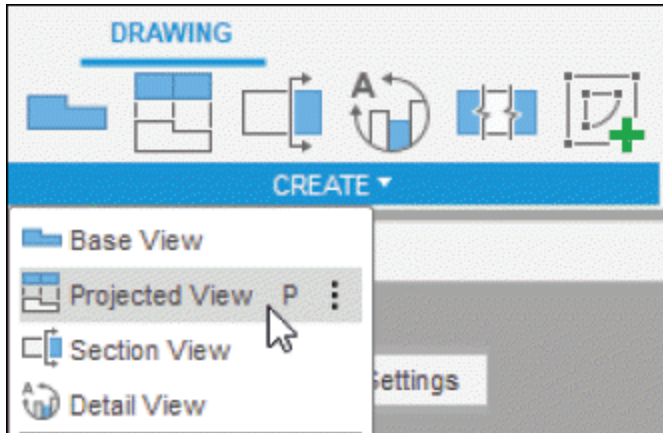

Figure-7. Projected View tool
- Click on the **Projected View** tool from **CREATE** panel in the **Toolbar**; refer to Figure-7. The tool will be activated.